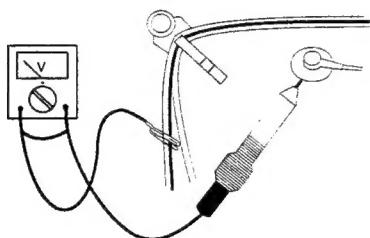

Fig.1
1. Remove the rear cover in Fig. 1.
- In order to prevent damage to ICs and transistors, all high-voltage flash-overs must be avoided. In order to prevent damage to the picture tube, the method shown in Fig. 1 should be used to discharge the picture tube. Use a high-voltage probe and a multimeter (position DC-V). Discharge until the meter reading is 0 V (after approximately 30 seconds).